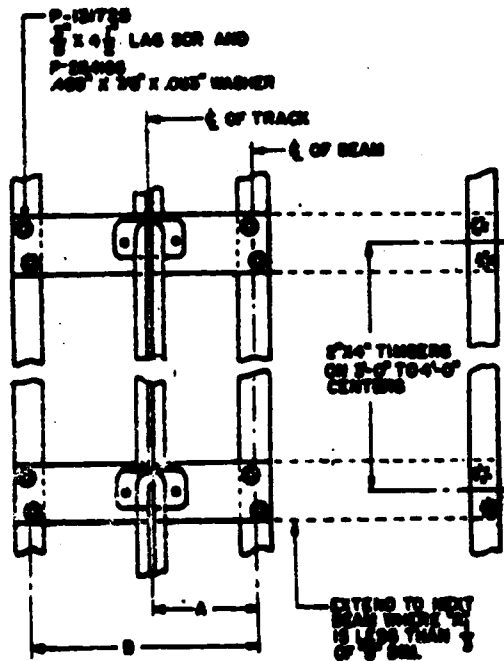

FIG. 20 TRACK SUPPORTED PARALLEL TO WOOD JOISTS
5.71 Timbers should be installed as required in wood joist constructed buildings for the support of ladder track. The track shall be supported from these timbers as shown in Figures 20, 21, 22 or 23. The track supports may be fastened directly to, or suspended by threaded rods from, the timbers. Track supports should be located approximately 3'-0", but not to exceed 4'-0", apart.
(BSP 800-614-159 FIG. 20)